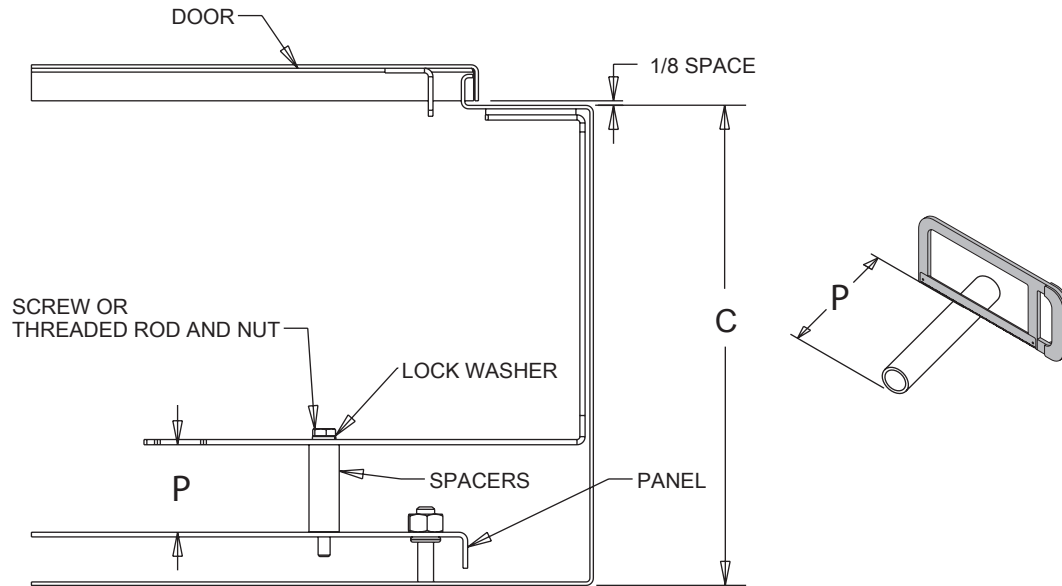

FIG. 3.
3. Support disconnect platform using spacers (cut to length), screws, threaded rod (cut to length), nuts and lockwashers supplied with the enclosure (see Figure 3).
5. Adjust the door hardware roller assemblies to give proper gasket compression. Use one of the medium thickness shims furnished by Allen-Bradley on roller assembly nearest the door handle. Adjust the roller at the end of the latch rods so the edge of the roller is approximately 13/16 inch from the top surface of the gasket. When the door is closed and latched the gap between the door edge and the body should be approximately 1/8 inch (see Figure 3). See Allen-Bradley instructions for other door hardware adjustments.